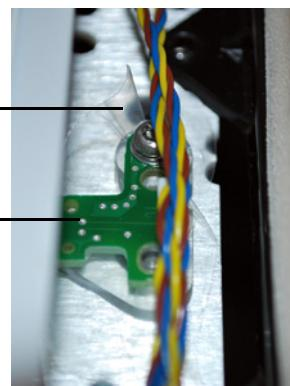

Figure 10 Plastic wrapping covering the LED electronics board on underside of front edge
- 3 On the underside of the cooling plate assembly, check that all plastic wrapping is intact, especially for the three LED electronics boards on the underside of the front edge (see Figure 10).